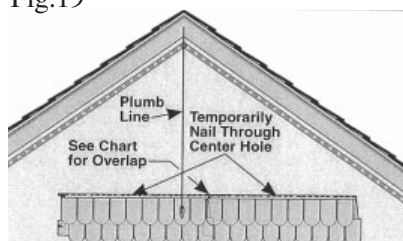

Fig.20
a. For symmetrical appearance at peak, position and lock full panel in the first course with Round-Cuts at center of the gable (see Figure 20).
d. Use template and cut at mark. If needed for secure installation, move the mark an equal distance (X on Figure 20) from any Alignment Line.